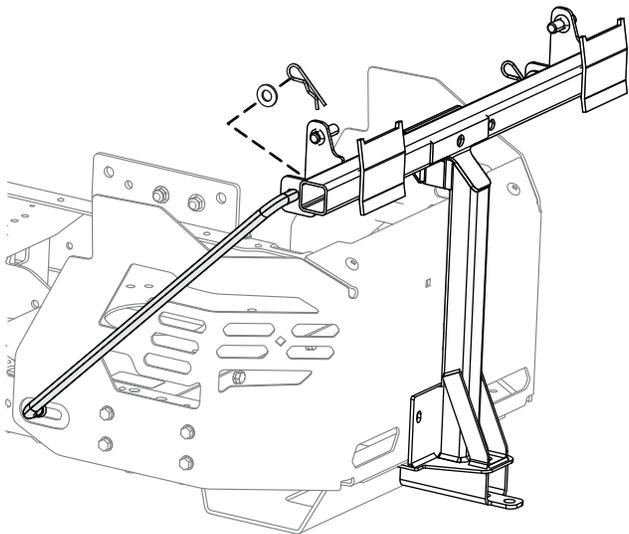

Figure 17
7. Install the bent, flared end of a rod into the keyed slot in the left side of the machine frame, and move the rod rearward to seat it in the frame (Figure 17).
8. Insert the bent ends of the rods into the attachment mount as shown in Figure 17 and secure the end of each rod with a washer and hairpin cotter.